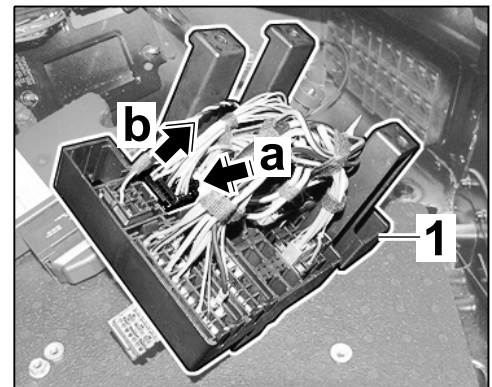

Figure 24
- 2.4.1 Release pin connector socket ⇒ *Figure 24 -arrow a-* and pull it out of the relay carrier in the luggage compartment at the right ⇒ *Figure 24-1-* (⇒ *Figure 24 -arrow b-*).